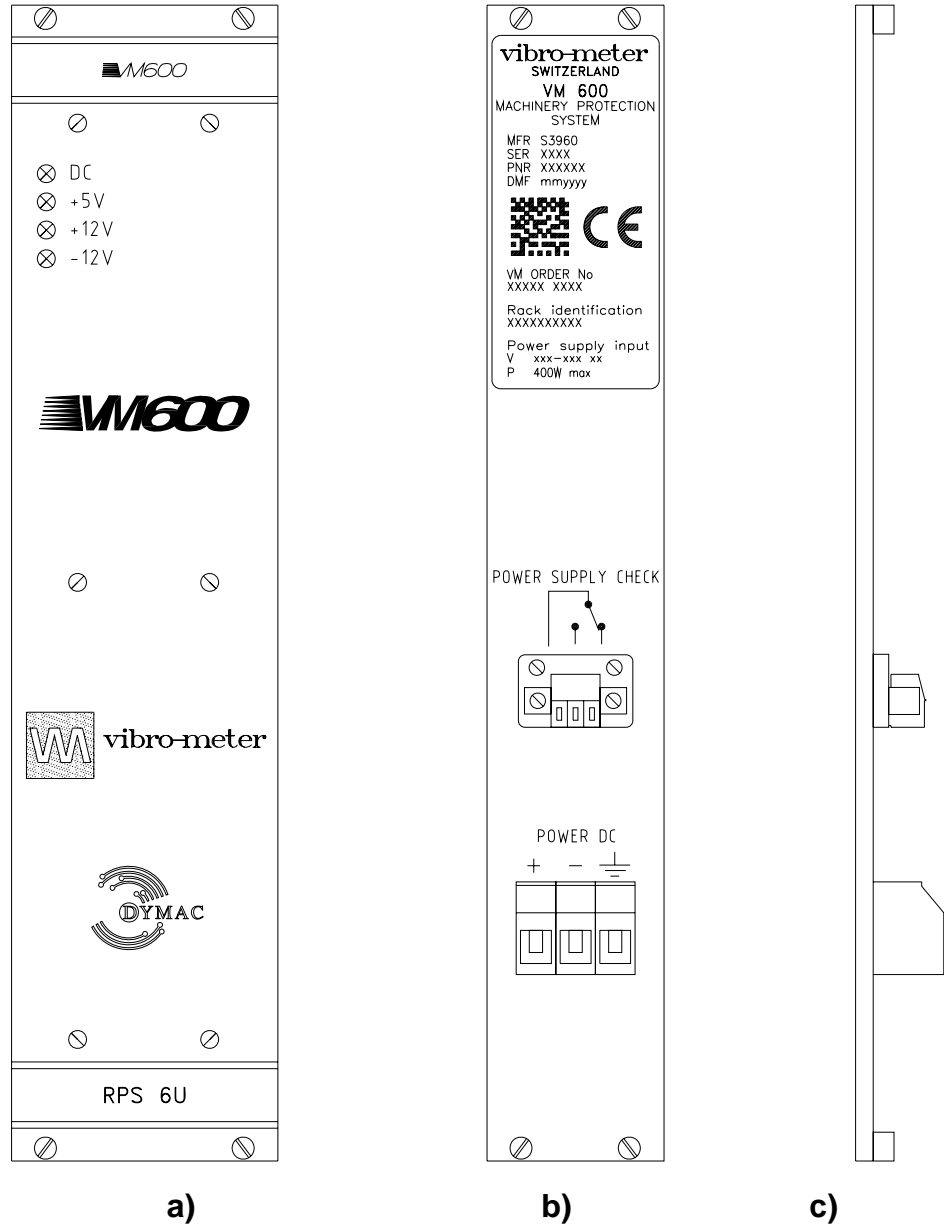
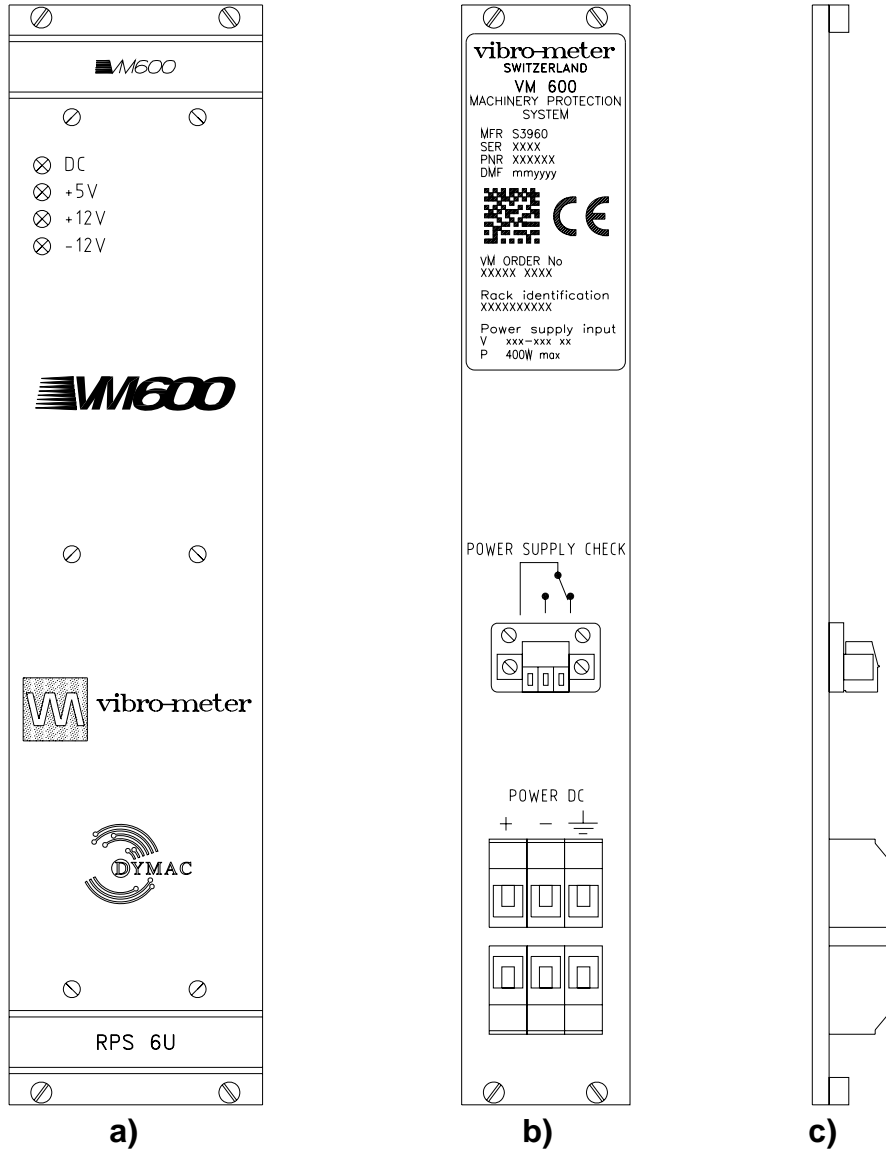

Figure 2-7 : The RPS 6U rack power supply unit intended for use with a DC mains supply (showing standard version of associated rear panel)
Figure 2-8 : The RPS 6U rack power supply unit intended for use with two independent DC mains supplies
- An RPS 6U unit intended for use with a DC mains supply and having an associated rear panel with a DC mains socket (see Figure 2-7 and Figure 2-8)
Figure 2-7 shows:
Figure 2-7 shows the standard version of the associated rear panel.
An alternative option having two independent DC sockets is shown in Figure 2-8. This can be used with racks having a single RPS 6U unit or racks having two RPS 6U units (one of them being “redundant”).
Figure 2-8 shows: